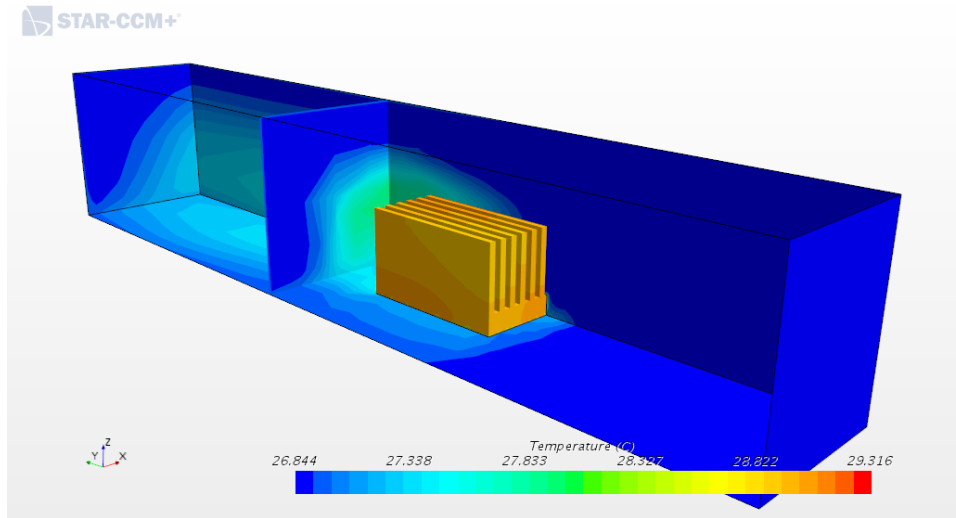

Figure 15 Temperature on the fin surface, symmetry plane, bottom wall and on a vertical plane downstream of the fin.
- The Temperature Scene, with the smooth contours and the newly create vertical plane section should look like Figure 15